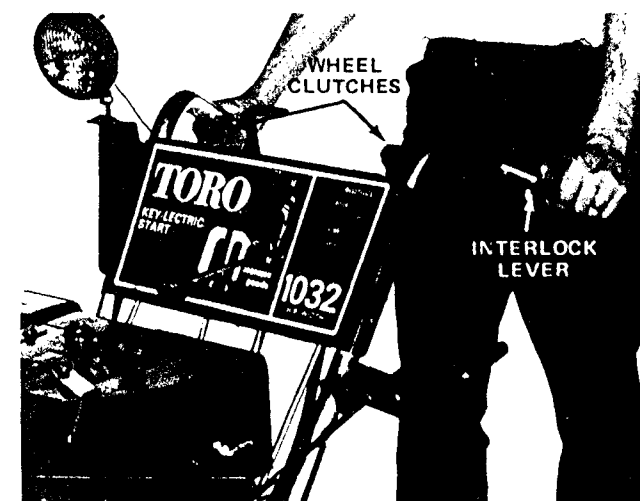
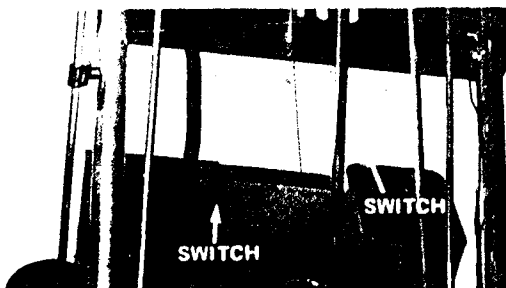

Figure 25
Figure 26
3. With engine running at idle speed and wheel drive control in 2 — second gear — push both wheel clutches down (Fig. 25) to transmit power to both wheels. **MAKE SURE BOTH WHEEL CLUTCHES ARE FULLY ENGAGED — PUSHED IN — TO PREVENT ACCIDENTAL DISENGAGEMENT OF THE WHEELS.**
The safety interlock system grounds out and stops the engine through a series of switches (Fig. 26), if the operator releases both interlock levers at once before moving wheel drive control to N — neutral — and auger drive control to DISENGAGE. So, to keep engine running when wheel drive is in gear or when auger drive control is ENGAGED, at least one of the safety interlock levers (Fig. 25) must be compressed against handle grip. This system also prevents the operator from starting the engine with the wheel drive control in gear or auger drive control engaged.